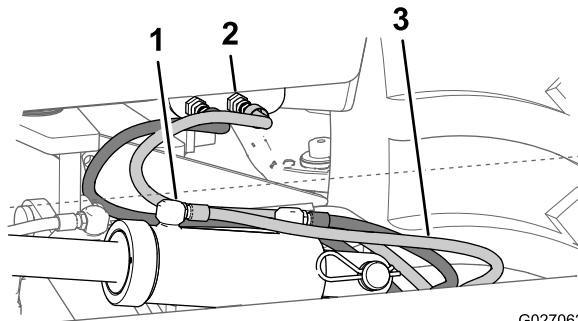

Figure 43
4. Connect the tilt cylinder retract hose (3/8 x 62-1/4 inch) between the bulkhead fitting for the tilt cylinder retract circuit at the left-hydraulic panel. and the retract port of the tilt cylinder (Figure 43).